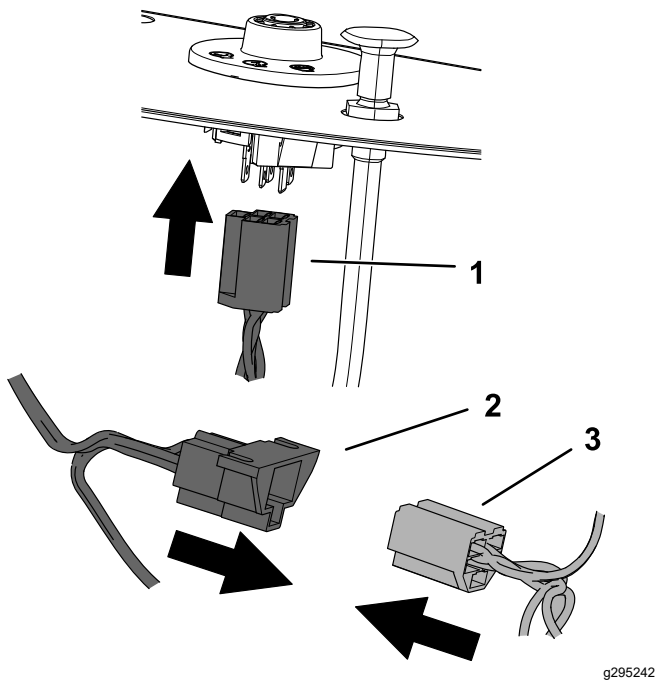

Figure 7
3. Connect the key switch "in" connector from the kit wire harness to the key switch (Figure 7).
4. Connect the key switch "out" connector to the key switch connector from the machine wire harness (Figure 7).